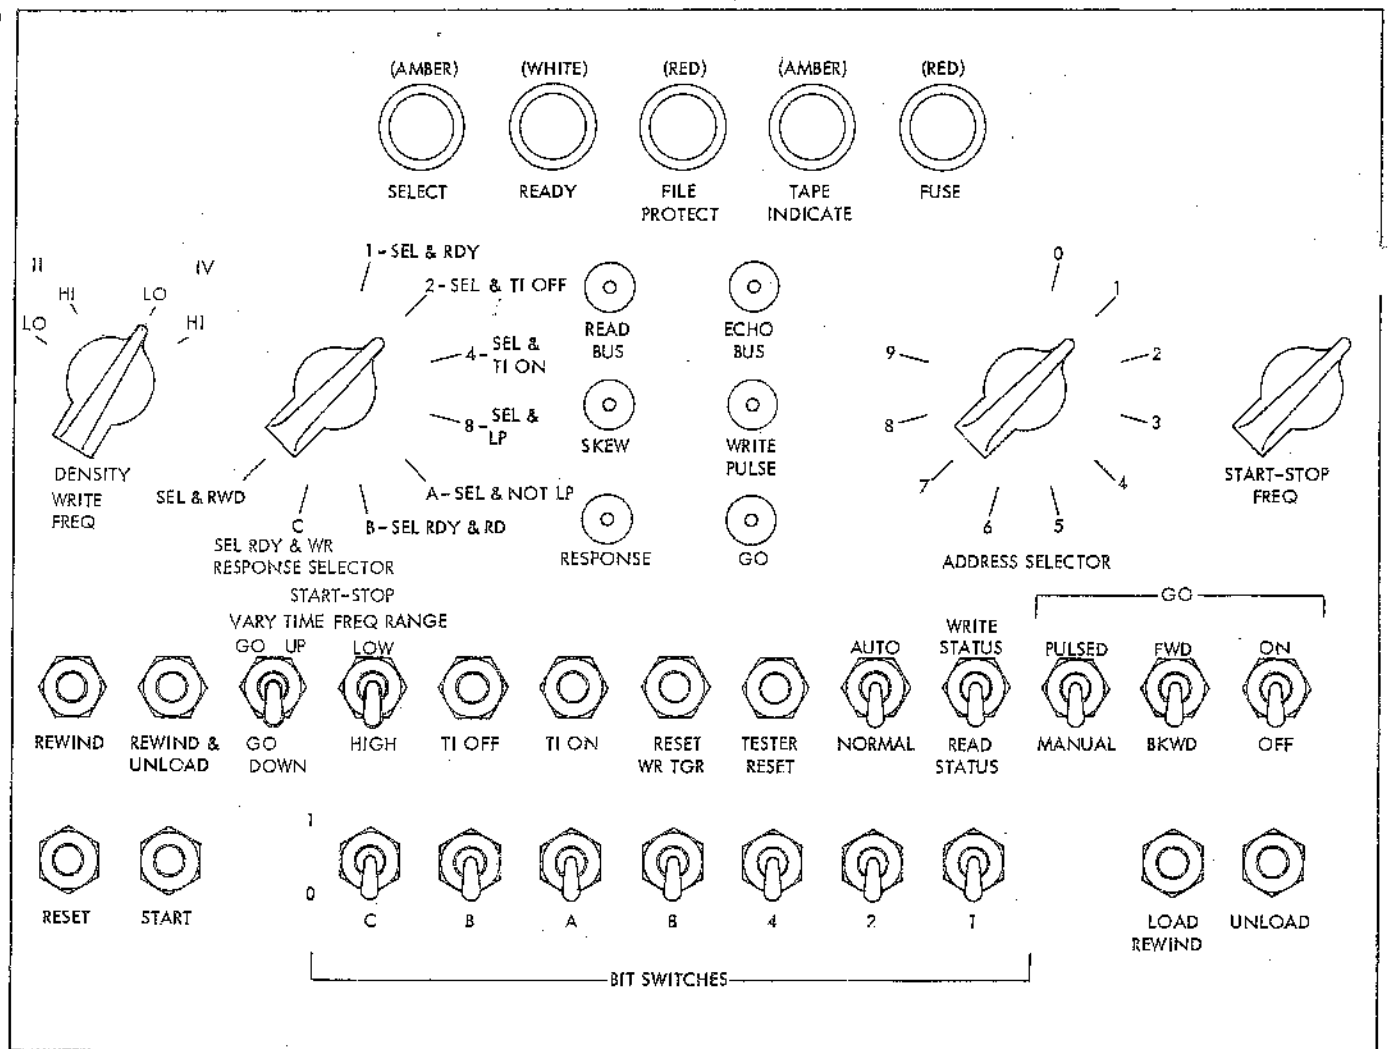

Figure 5-1. Switch Panel, 729 n and tv
This tape drive tester (TDT) tests mechanical and electrical functions of the 729 II and IV (Figure 5-1). All signals to and from the tape unit are checked by the tester.
5.1.3 Switches (Figure 5-1)